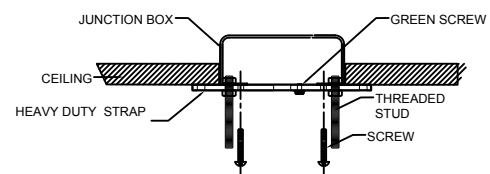

FIGURE-01
1. Attach the heavy duty strap unto the junction box. (The green screw should face the floor). Place the heavy duty strap at the junction box and fasten using the round head screw. (See FIGURE-01.)